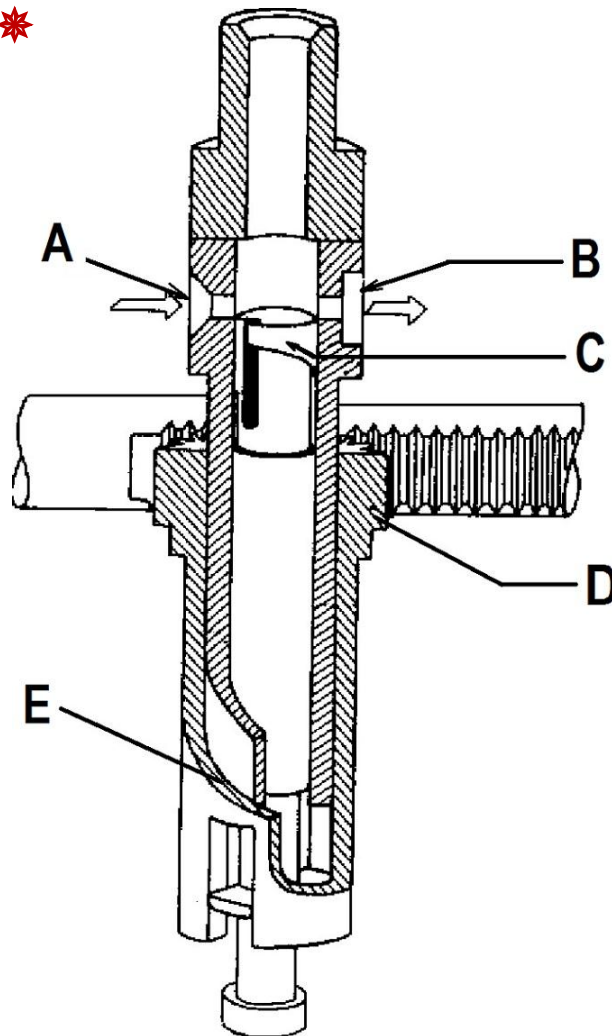

Figure 1
- 2.1 FIGURE 1 below, shows a sectional diagram of a plunger element found in an inline plunger injection pump.